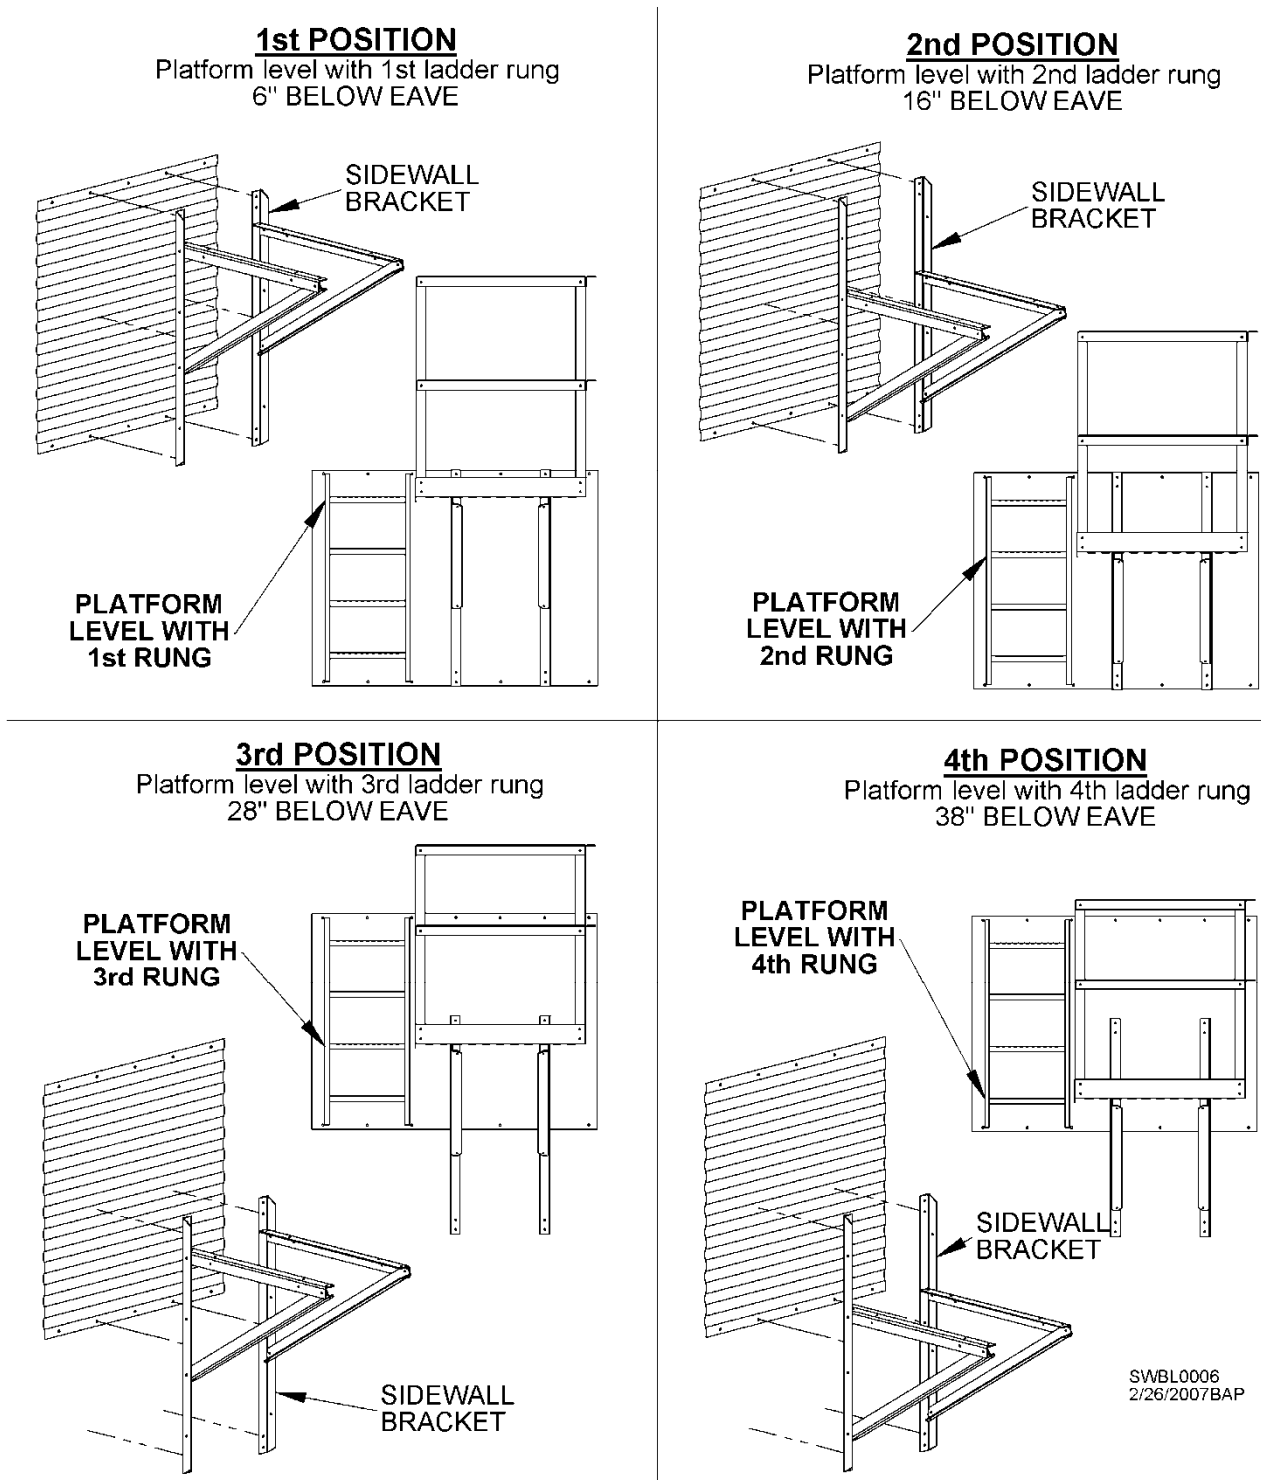

**Fig. 9**
As bin is built, continue to add appropriate ladder and cage sections. Refer to following pages for specific ladder and cage layouts. Cage sections consist of standard D-rings (B5085) and seven (7) 44" uprights (B5090). Standard D-rings attach to inside of ladder siderails. A flared D-ring is always used at bottom of each cage assembly. Top D-ring must be connected to center of top ladder. This allows bottom flared D-ring to be at proper height above the next surface (concrete or platform). Attach standard D-rings and uprights to ladder sections with 3/8" hardware. See Fig. 9.
See Fig. 9 and related instructions for adding ladder and cage sections.